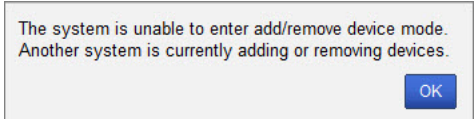

FIG. 28 "Unable to enter/remove device mode" prompt
- a. Entering activation may fail due to another system being in activation. This will open the *Unable to enter add/remove device mode* popup window (FIG. 28).